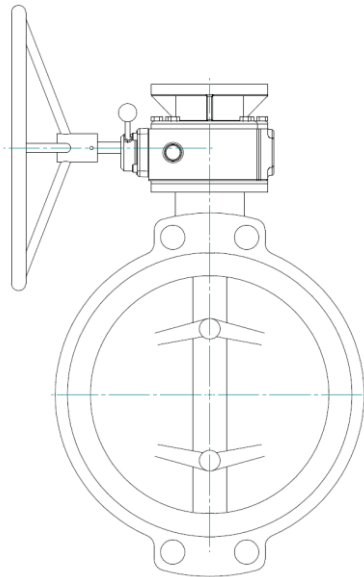

Figure 4: Gearbox perpendicular and on top of the valve
8. The gearbox is mounted perpendicular to the valve (see figure 4).